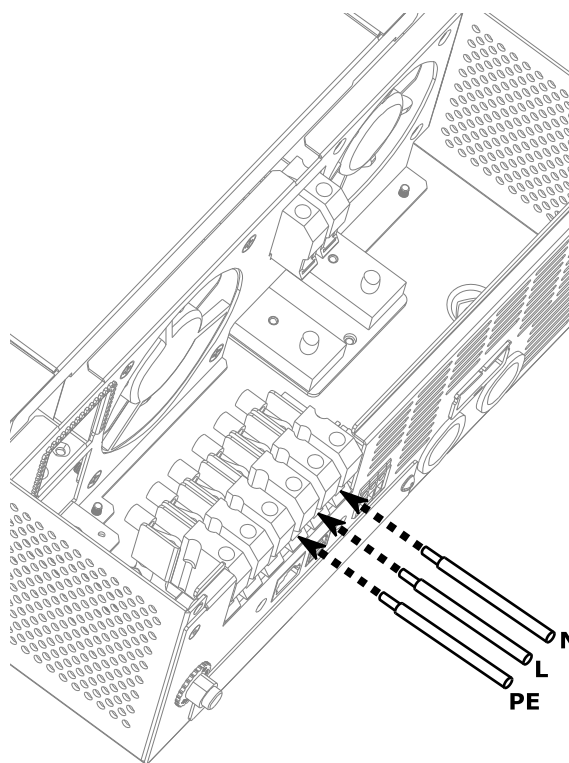

Figure 8: AC output conductor connection
4. Connect the PE (⚡ - protective earth) cable of the AC input (*Figure 7*) to the corresponding terminal on the inverter and connect the PE (⚡ - protective earth) conductor of the AC output (*Figure 8*) to the corresponding terminal on the inverter. Tighten the terminal clamps with a torque of 1.2 Nm.
5. Connect the L (phase) and N (neutral) conductors to the respective AC input (*Figure 7*) and AC output (*Figure 8*) terminals. Tighten the terminal clamps with a torque of 1.2 Nm.